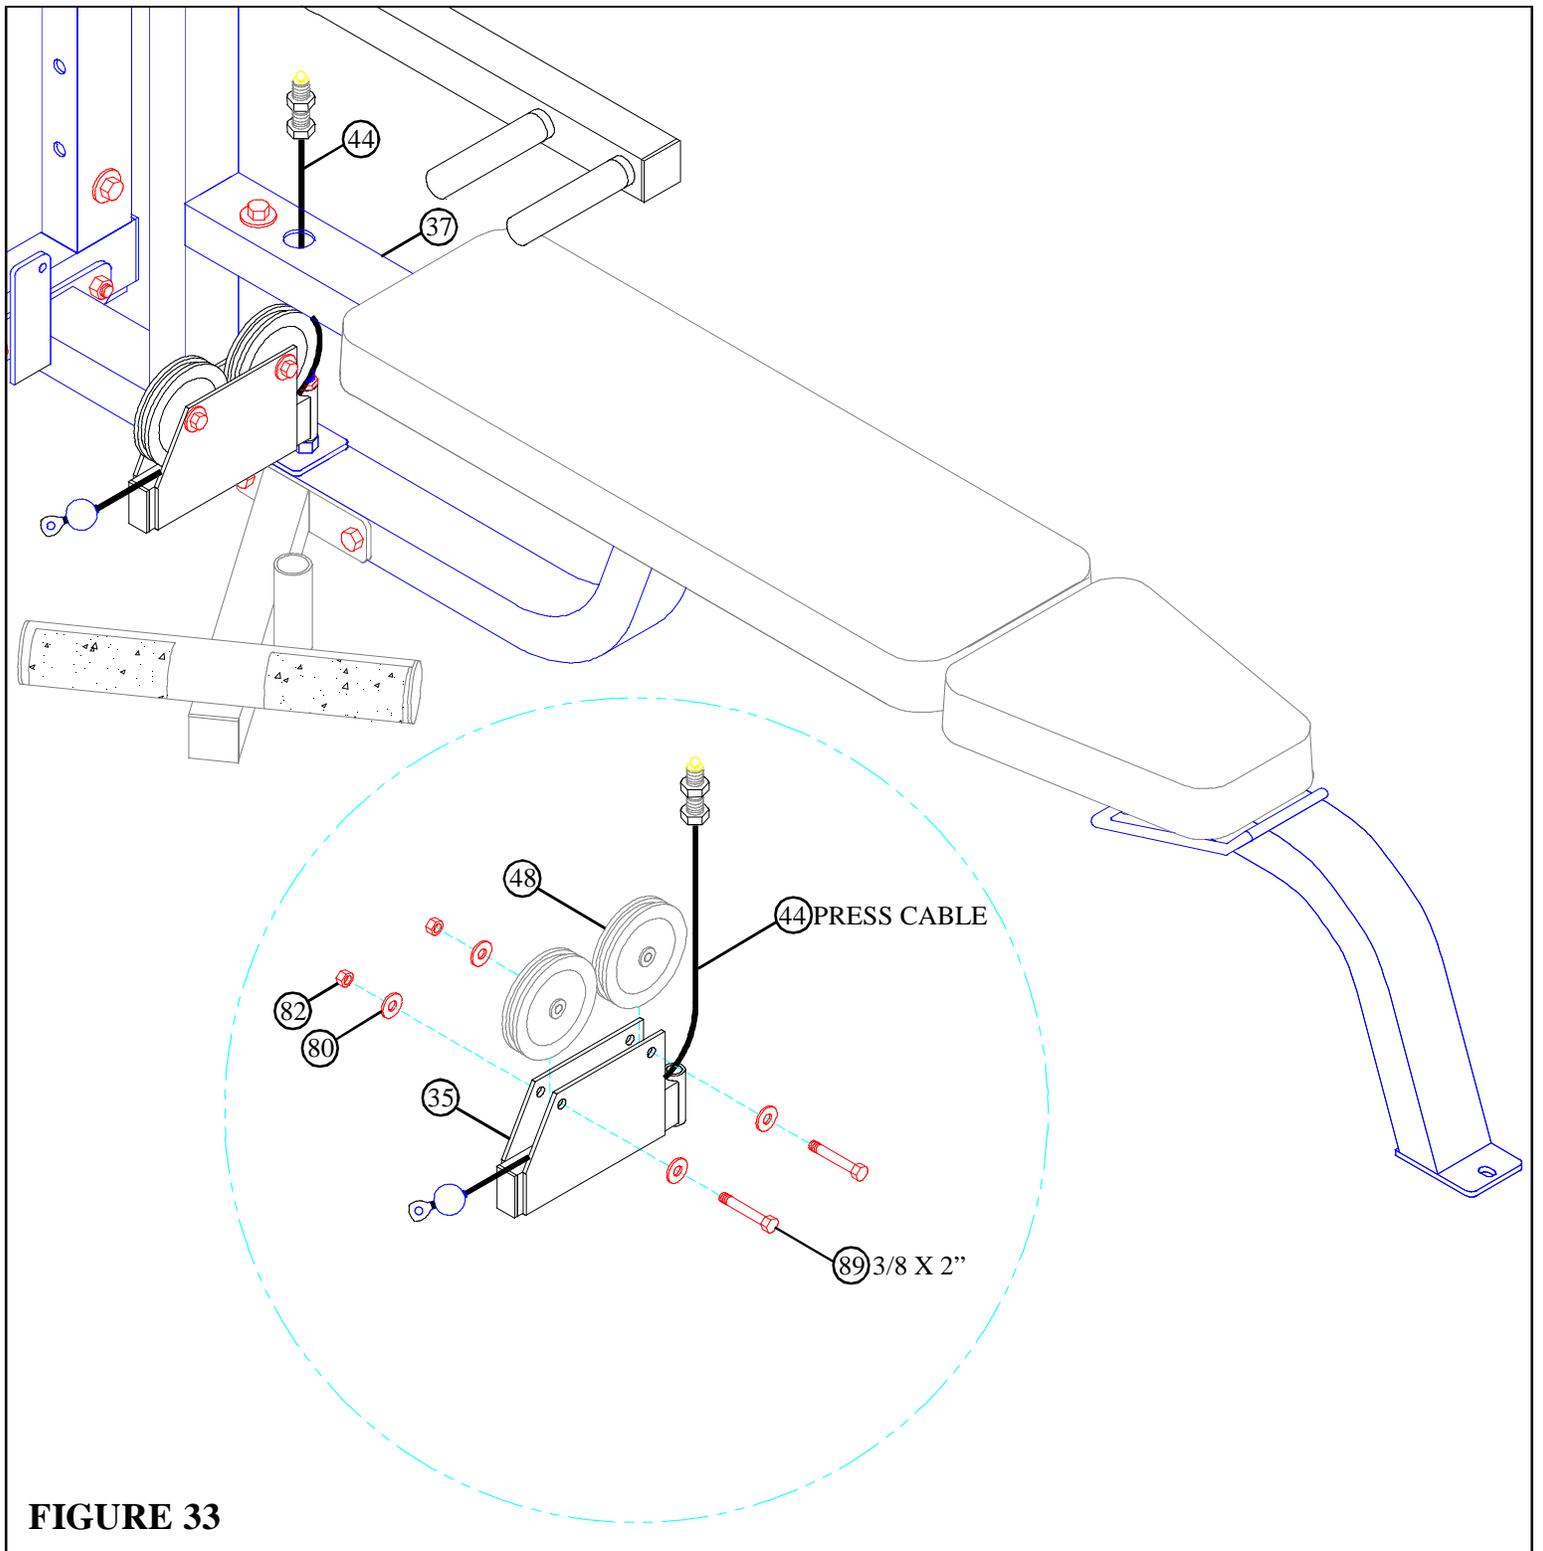

FIGURE 33
- **SECURE** the ball end of the PRESS CABLE (44) and two 4-1/2" PULLEYS (48) to the SWIVEL PULLEY BRACKET (35) using two 3/8 X 2" BOLTS (89), four 3/8" WASHERS (80), and two 3/8" LOCK NUTS (82) as shown in FIGURE 33. (**NOTE: Loop the cable around the pulleys prior to inserting it into the SWIVEL PULLEY BRACKET.**)
- Route the threaded end of the PRESS CABLE (44) through the large hole in the PRESS FRAME (37) as shown in FIGURE 33.